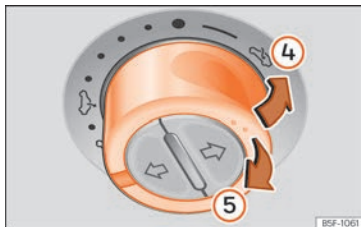

Fig. 16 On the internal cover of the roof: press the button and pull on it to raise and lower the sunroof.
- Lift: Push the switch to position >>> Fig. 16 ④. For an intermediate position, hold down the switch until you reach the desired position.
- Lower: pull the switch to position >>> Fig. 16 ⑤. For an intermediate position, hold down the switch until you reach the desired position.